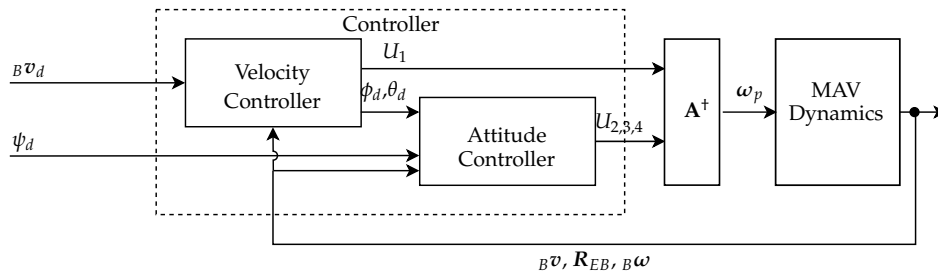

Figure 2: Control structure.
In this exercise, attitude and velocity controllers will be designed and evaluated using MATLAB and SIMULINK. The control structure is depicted in Figure 2. The outer loop controller (velocity controller) generates commands to the inner loop controller (attitude controller). The commands (total thrust U_1 and moments U_2, \dots, U_4) are converted into rotor speed $\omega_{p,i}$ by inverting the expression in Equation (3). Note that matrix \mathbf{A} has dimensionality 4×6 . Therefore, the pseudo-inverse is used to solve Equation (3) for $\omega_{p,1\dots 6}$. The pseudo-inverse is given by $\mathbf{A}^+ = \mathbf{A}^T (\mathbf{A}\mathbf{A}^T)^{-1}$.